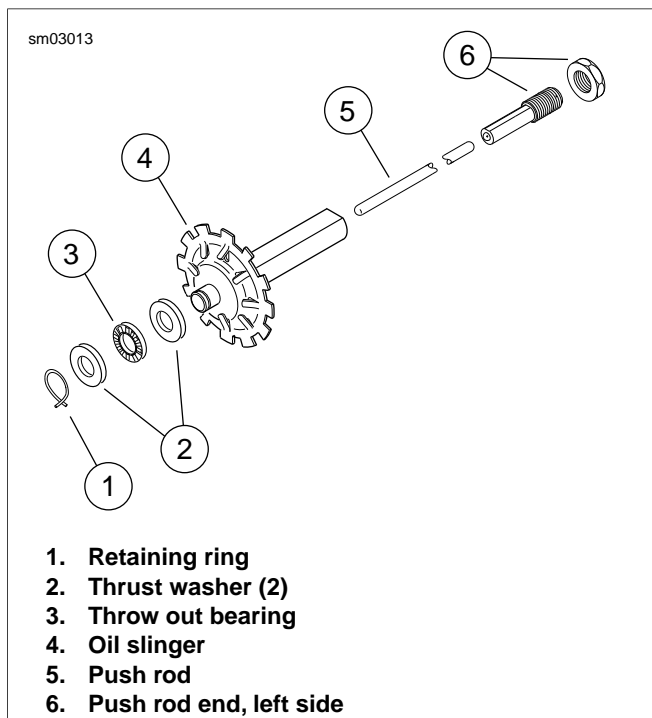

Figure 6-7. Push Rod Assembly
6. See Figure 6-7. Remove oil slinger assembly from mainshaft. Insert long rod through mainshaft bore and remove push rod.